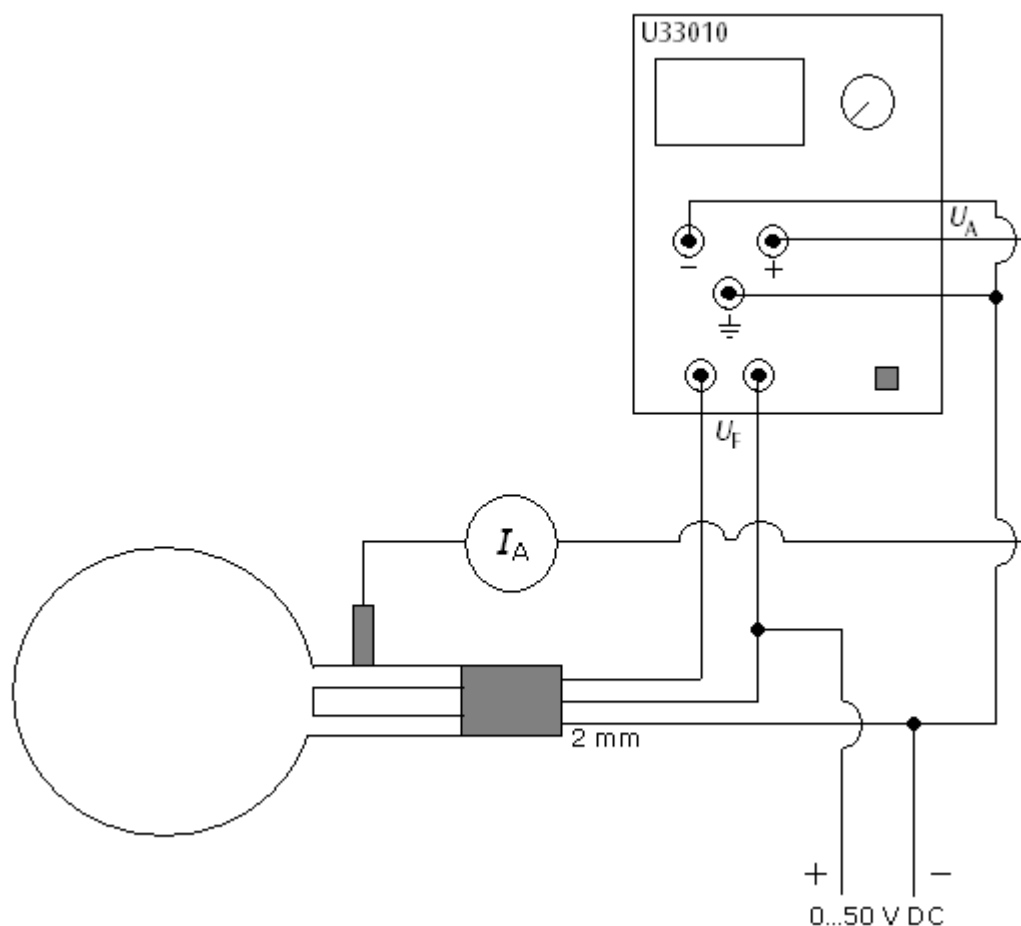

Fig. 2 Circuit of the diffraction tube, 0 - 50 V DC focussing voltage (optional)
- Set up the experiment as in Fig. 2. Connect the negative pole of the anode supply via the 2-mm socket.